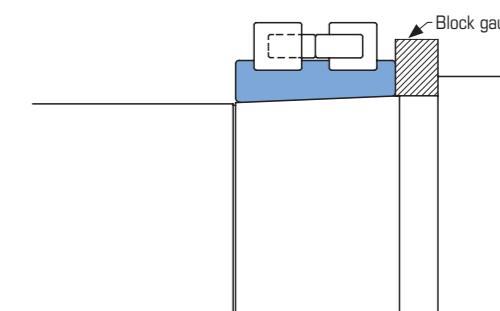

Figure 9.10 Spacer Temporary Width Dimension Measurement
- Use a block gauge to measure the length to the inner ring edges surface and shaft shoulder (Figure 9.10).